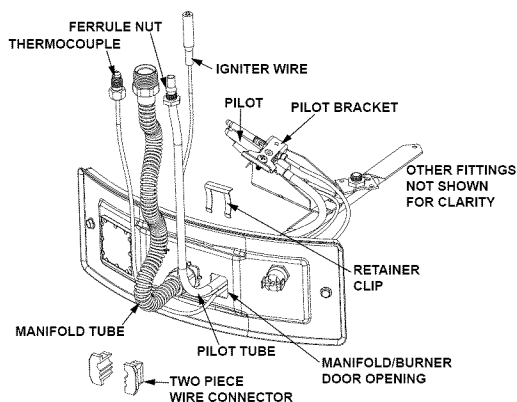

FIGURE 25.
2. Remove the retainer clip from the back of the two piece wire connector and remove the two piece wire connector from the manifold door (Figure 25).
6. Position the new thermocouple through the larger opening of the two piece wire connector (Figure 25). Be sure igniter wire is positioned through the small opening of the two piece wire connector.
2. Lift the retainer clip straight up from the back of the two piece wire connector (using a flat-blade screwdriver), then remove the two piece wire connector from the manifold door (Figure 25.)
7. Route the new pilot tube, thermocouple, and igniter wire through the manifold/burner door opening. (Figure 25)
11. Carefully bend the new pilot tube and thermocouple to match the bend of the manifold tube. **NOTE:** When bending **DO NOT** crimp or crease the pilot tube or thermocouple. (Figure 25)